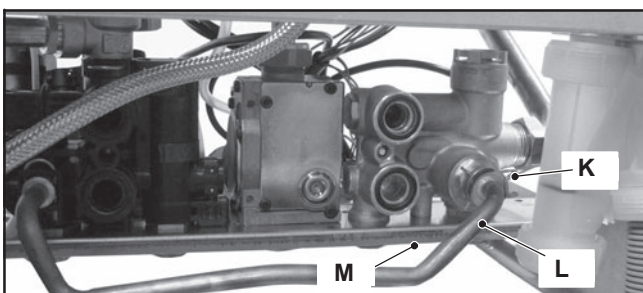

Figure 8.6
- 8 Remove the fork K and move away the pipe L (Figure 8.6).